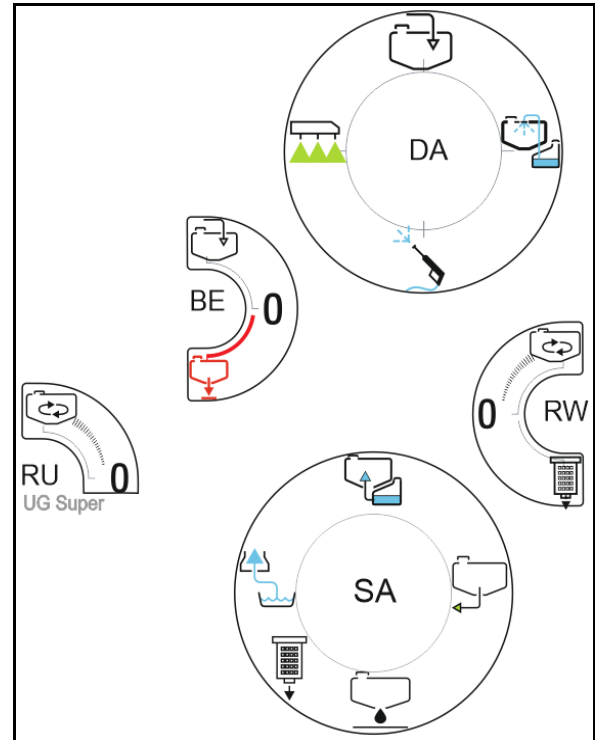

Fig. 124
Clean the suction filter (Fig. 124) on a daily basis after cleaning the field sprayer.
1. Unscrew the cover of the suction filter (Fig. 124/2).
2. Remove the cover with suction filter (Fig. 124/3) and clean with water.